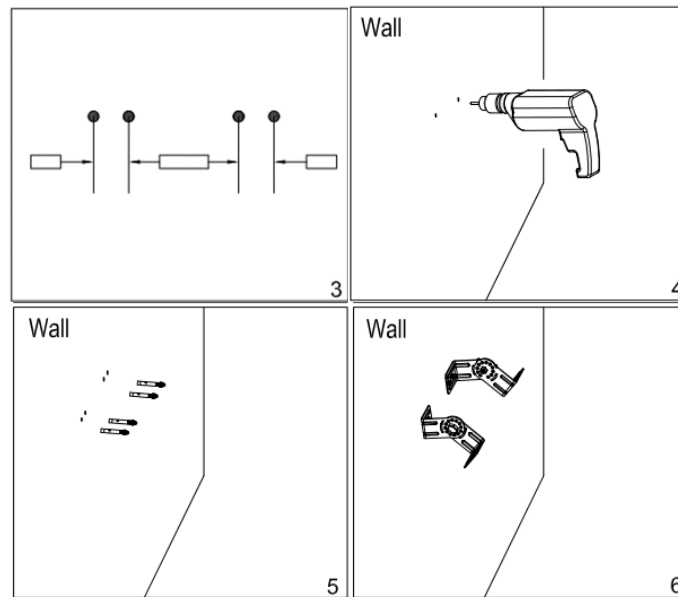

Figure 5 | Attaching brackets to wall or ceiling
3. Line up the brackets with the wall or ceiling and mark the location of the four outer holes. Drill holes at the marked locations and fit the bolts (B) into the holes (see **Figure 5**).
4. Thread the brackets over the bolts and fix securely to the mounting surface (See **Figure 5**).